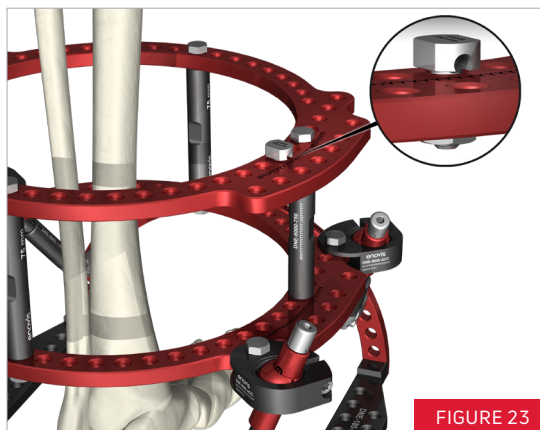

FIGURE 23
1. A half pin fixation bolt is inserted into the appropriate hole (**FIGURE 23**). The half pin fixation bolt can act as a guide for half pin insertion.